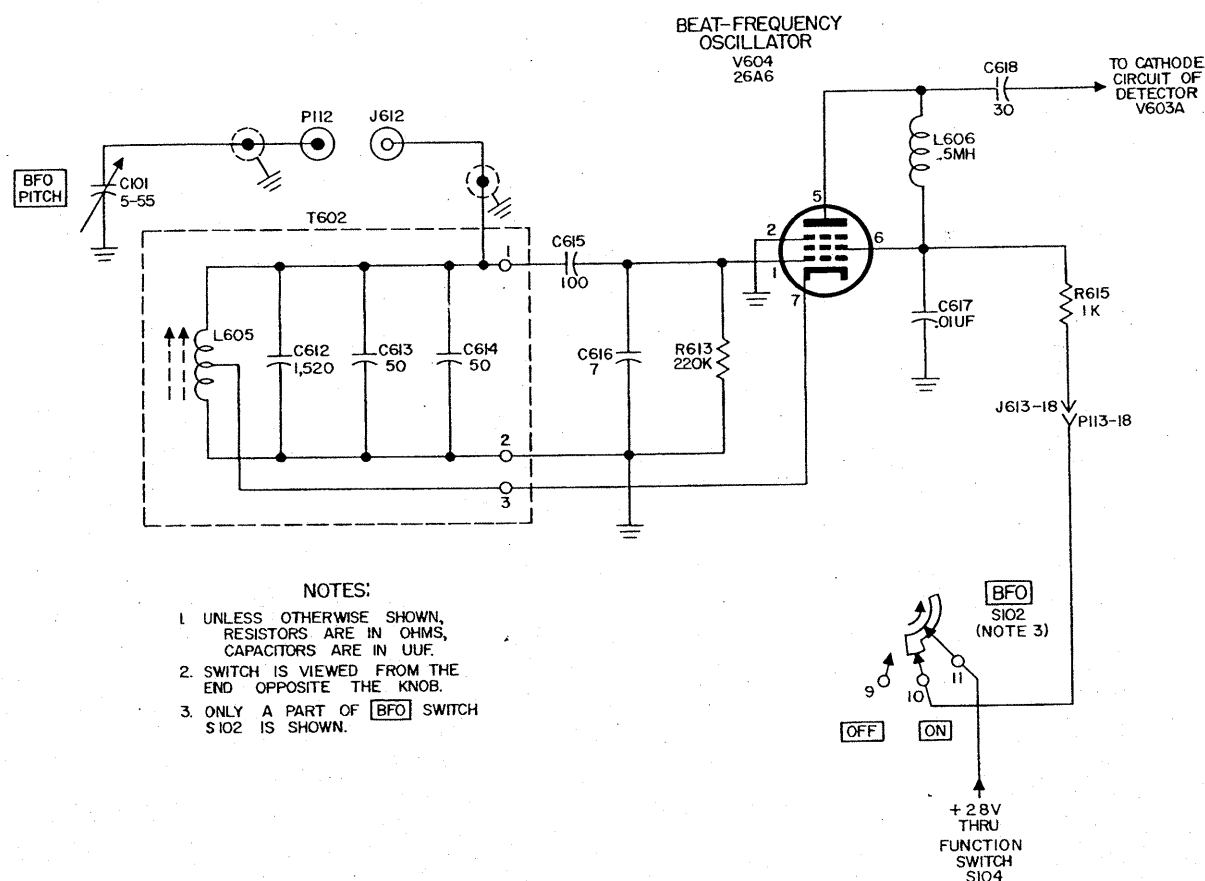

Figure 13. Beat-frequency oscillator, simplified schematic diagram.
19. Beat-Frequency Oscillator V604 (fig. 13)